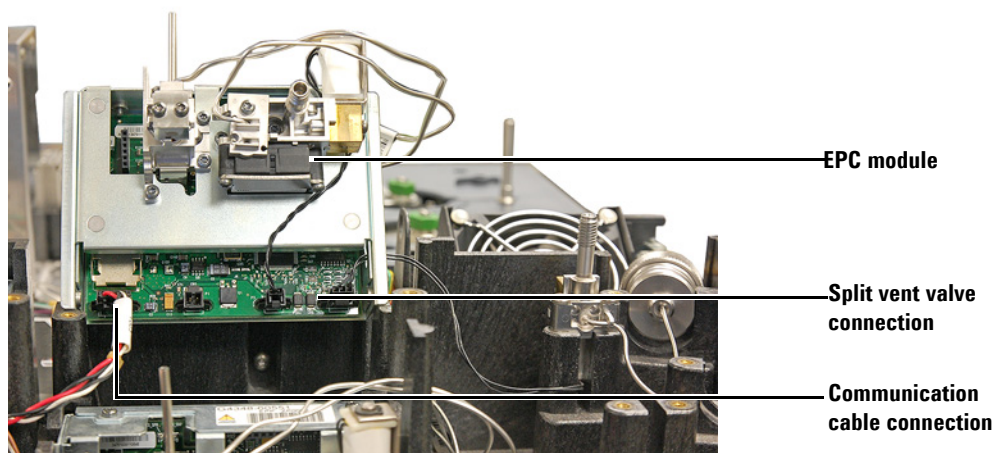

Figure 10 Communication cable and split vent valve wire connections on EPC module
- 1 Locate the communications cable in the inlet module EPC bays area and plug it into the connector located on the EPC module's PC board. See Figure 10.